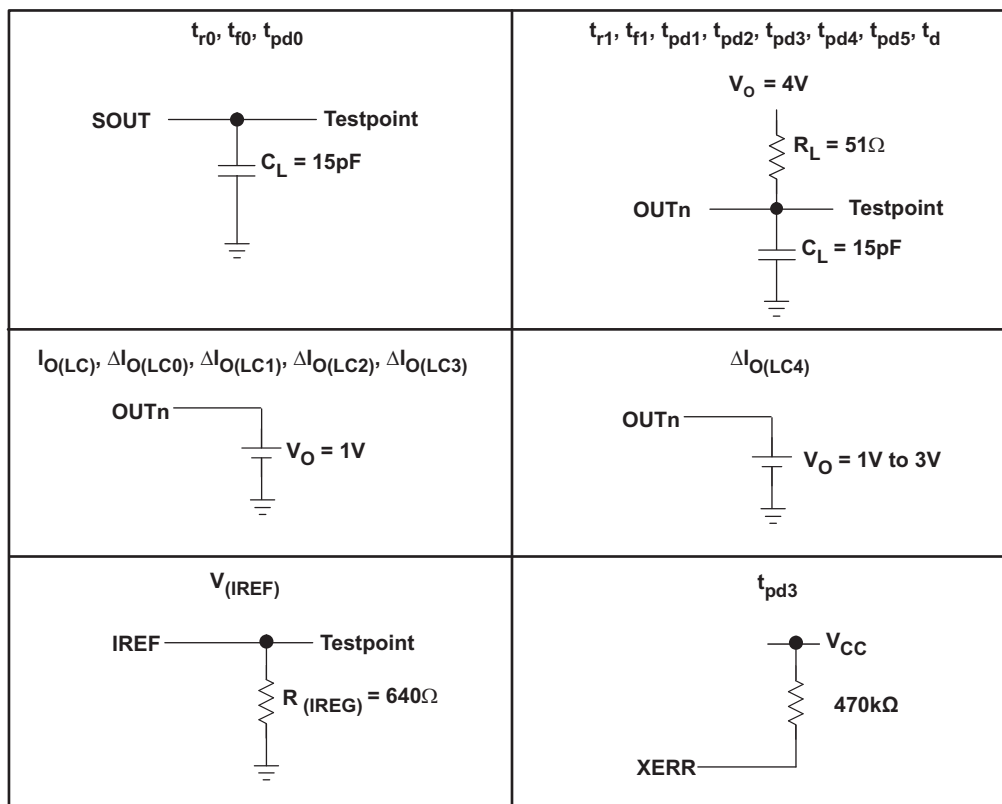

Figure 3. Parameter Measurement Circuits
| $I_{O(LC)}$         | Constant sink current (see <a href="#">Figure 3</a> )       | All output ON, $V_O = 1\text{ V}$ , $R_{(IREF)} = 640\Omega$ , $25^\circ\text{C}$   | 54             | 61         | 69       | mA            |
| $\Delta I_{O(LC0)}$ | Constant sink current error (see <a href="#">Figure 3</a> ) | All output ON, $V_O = 1\text{ V}$ , $R_{(IREF)} = 640\Omega$ , OUT0 to OUT15, $25^\circ\text{C}$                                |                |            | $\pm 4$  | %             |
| $\Delta I_{O(LC1)}$ | Constant sink current error (see <a href="#">Figure 3</a> ) | Device to device, Averaged current from OUT0 to OUT15, $R_{(IREF)} = 1920\Omega$ (20mA) (2)                          |                | -2+0.4 |          | %             |
| $\Delta I_{O(LC2)}$ | Constant sink current error (see <a href="#">Figure 3</a> ) | Device to device, Averaged current from OUT0 to OUT15, $R_{(IREF)} = 480\Omega$ (80mA) (2)                           |                | -2.7+2 |          | %             |
| $\Delta I_{O(LC3)}$ | Line regulation (see <a href="#">Figure 3</a> )             | All output ON, $V_O = 1\text{ V}$ , $R_{(IREF)} = 640\Omega$ , OUT0 to OUT15 (3) , $25^\circ\text{C}$                |                |            | $\pm 4$  | %/V           |
| $\Delta I_{O(LC4)}$ | Load regulation (see <a href="#">Figure 3</a> )             | All output ON, $V_O = 1\text{ V to }3\text{ V}$ , $R_{(IREF)} = 640\Omega$ , OUT0 to OUT15 (4) , $25^\circ\text{C}$  |                |            | $\pm 6$  | %/V           |